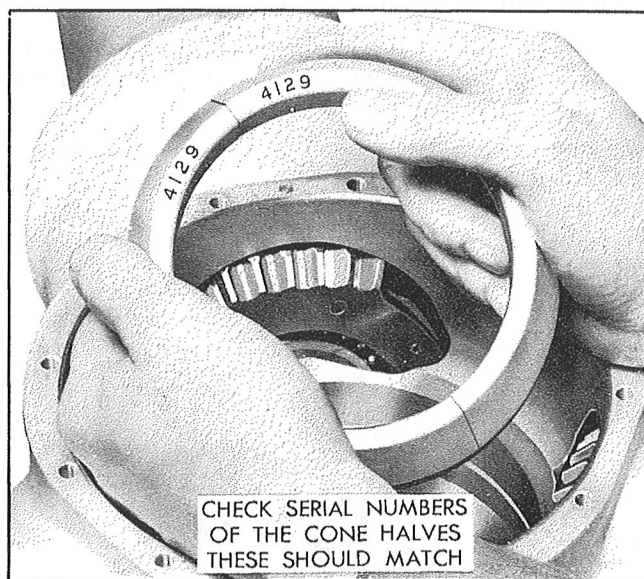

Figure 100—Installation of Shaft Nut and Front Cone
*Step 2.*—Check the mating of the front cone halves. Use only cone halves with matched serial numbers, as shown in Figure 100.